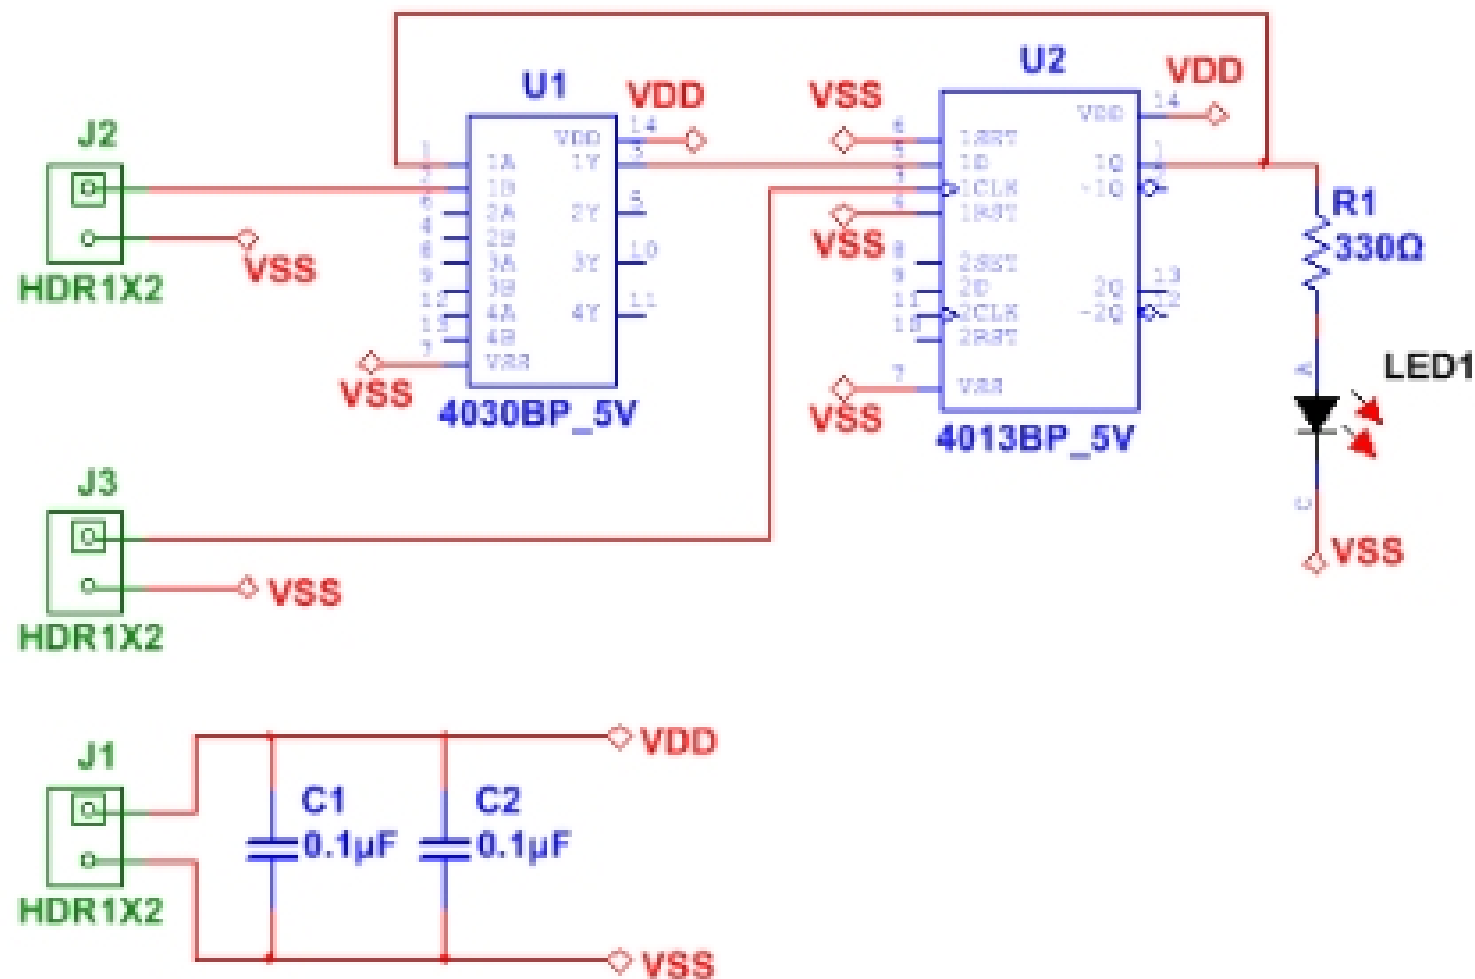
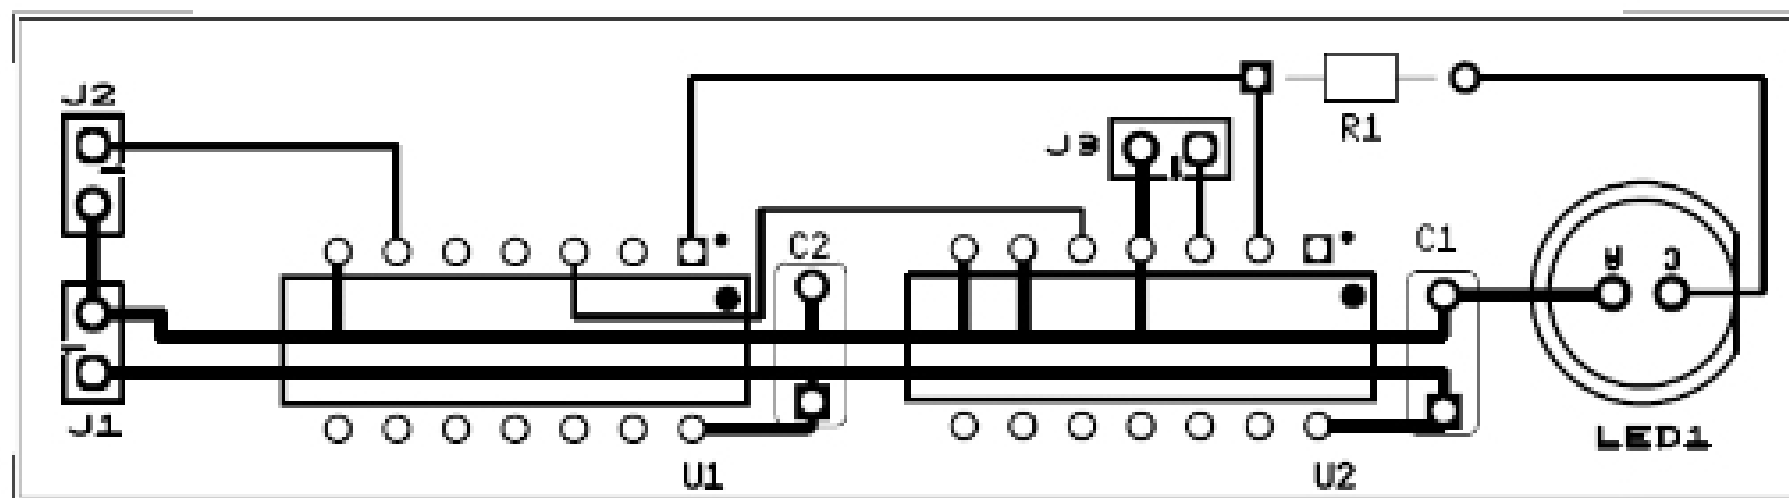

Figure 1: Schematic capture.
Figure 2: Printed circuit board layout.
Figure 1 shows the schematic capture of the parity detector designed in Laboratory #5, while Figure 2 shows a layout using a single copper layer on top of the printed circuit board.
- (10 points) Is the printed circuit board layout consistent with the circuit diagram in Figure 2? If not, state the differences.
- (10 points) Regardless of whether or not the circuit layout is consistent with the circuit diagram, critique the layout in Figure 2 with respect to trace routing. What changes would you suggest? Assign each of your suggestions a number, and attach a copy Figure 2 with your your solutions that contains a circle around each affected region and label the circles with the corresponding suggestion number.